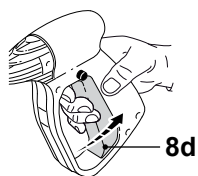

Fig. 21
2. Turn the on/off switch (5) to "O" (off).
4. Press the trigger (8d) to release the pressure still present in the product (Fig. 21).